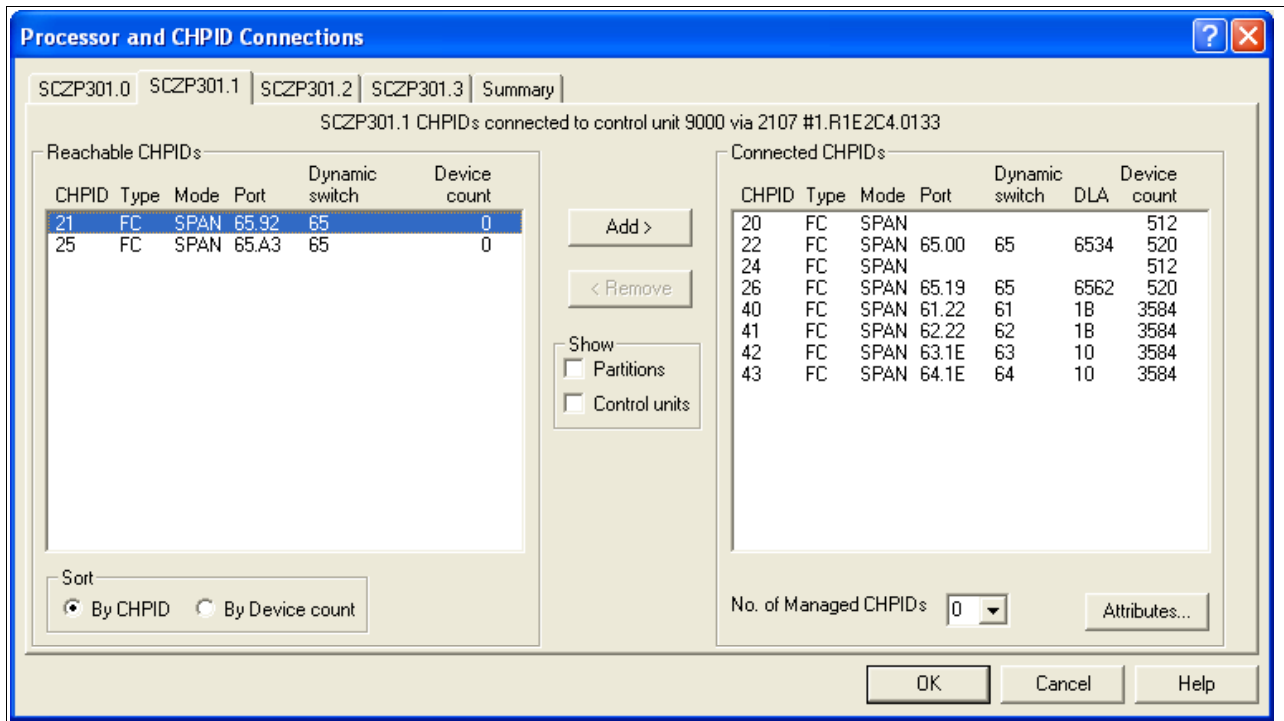

Figure 7-23 HCM Adding CHPIDs to CU definitions
28. Highlight CHPID 21, and then click **Add**. See Figure 7-23.